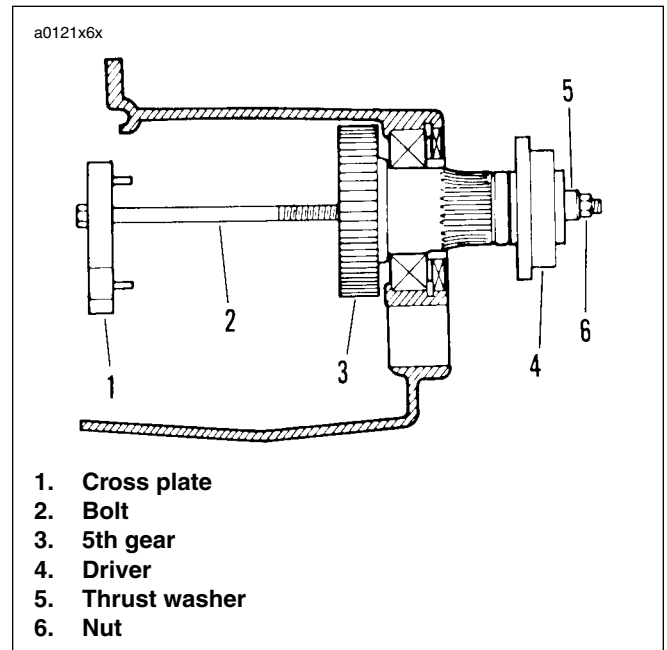

Figure 6-68. Removing Main Drive Gear
5. See Figure 6-68. Assemble MAIN DRIVE GEAR REMOVER AND INSTALLER (Part No. HD-35316-A) with CROSS PLATE (Part No. B-45847).
6. Insert bolt (2) through cross plate (1) and 5th gear (3).